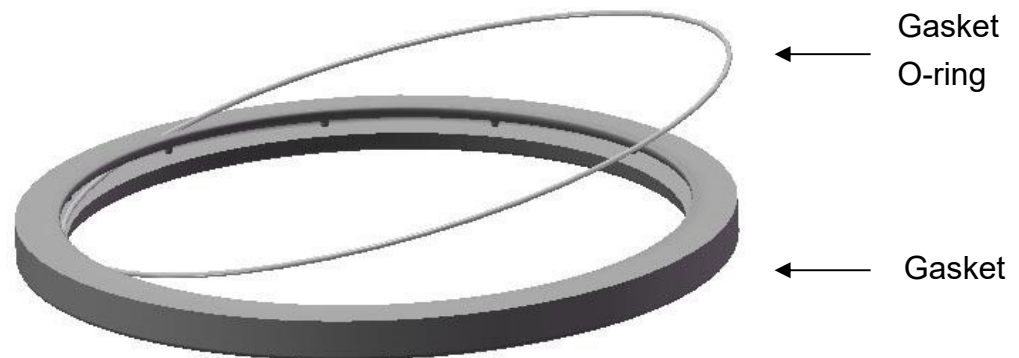

Figure 57
1. Remove the old gasket from the door, and then puff off the gasket o-ring from the gasket. Install the gasket o-ring to the new gasket as Figure 57.